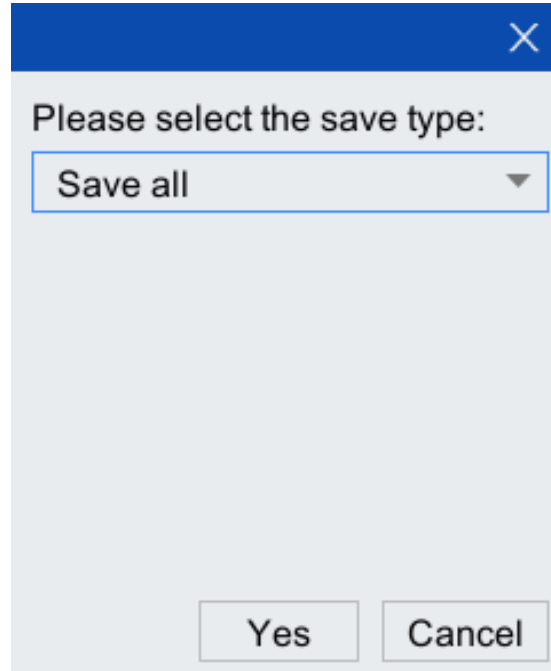

Figure 4-6 Save as type dialog
Step11. After the parameter configuration is completed, click <Save>, and the dialog box shown in Figure 4-6 will pop up. Select "Save all" in [Please select save type], and click <Yes>.